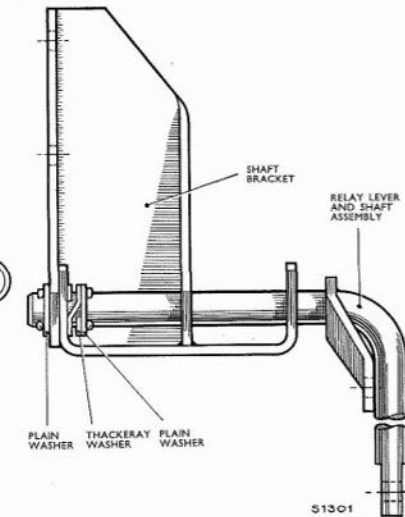

Fig. C.13. Arrangement of accelerator relay lever, shaft and bracket (R.H.D. Models)
2. Use new split pins when assembling the relay lever shaft to its bracket, ensuring that the thackeray and plain washers are located in their original positions (see Fig. C.13).